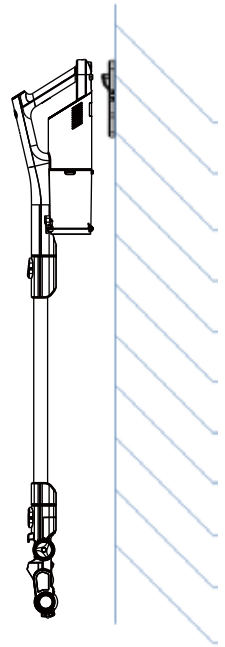

Fig. 7
6. Insert the assembled vacuum cleaner into the bracket (fig.7).